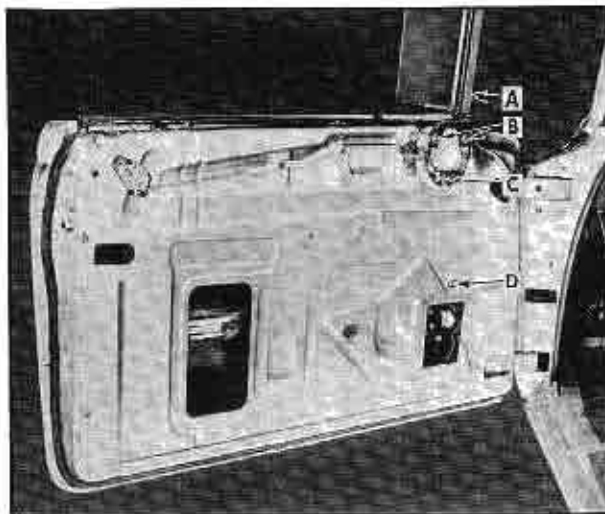

Fig. 3-31 Wing Assembly Alignment
2. To adjust the assembly in or out, remove the garnish molding, door trim pad, and loosen two bolts and adjusting stud nuts, Fig. 3-31. Turn studs in or out with a screwdriver to obtain desired alignment.
3. Remove two bolts "B" and adjusting stud nut "C", shown in Fig. 3-31.
2. Loosen set screw at upper pivot and remove attaching screws "B" and "C" Fig. 3-31. Note relative position of all washers so that they can be reinstalled properly.